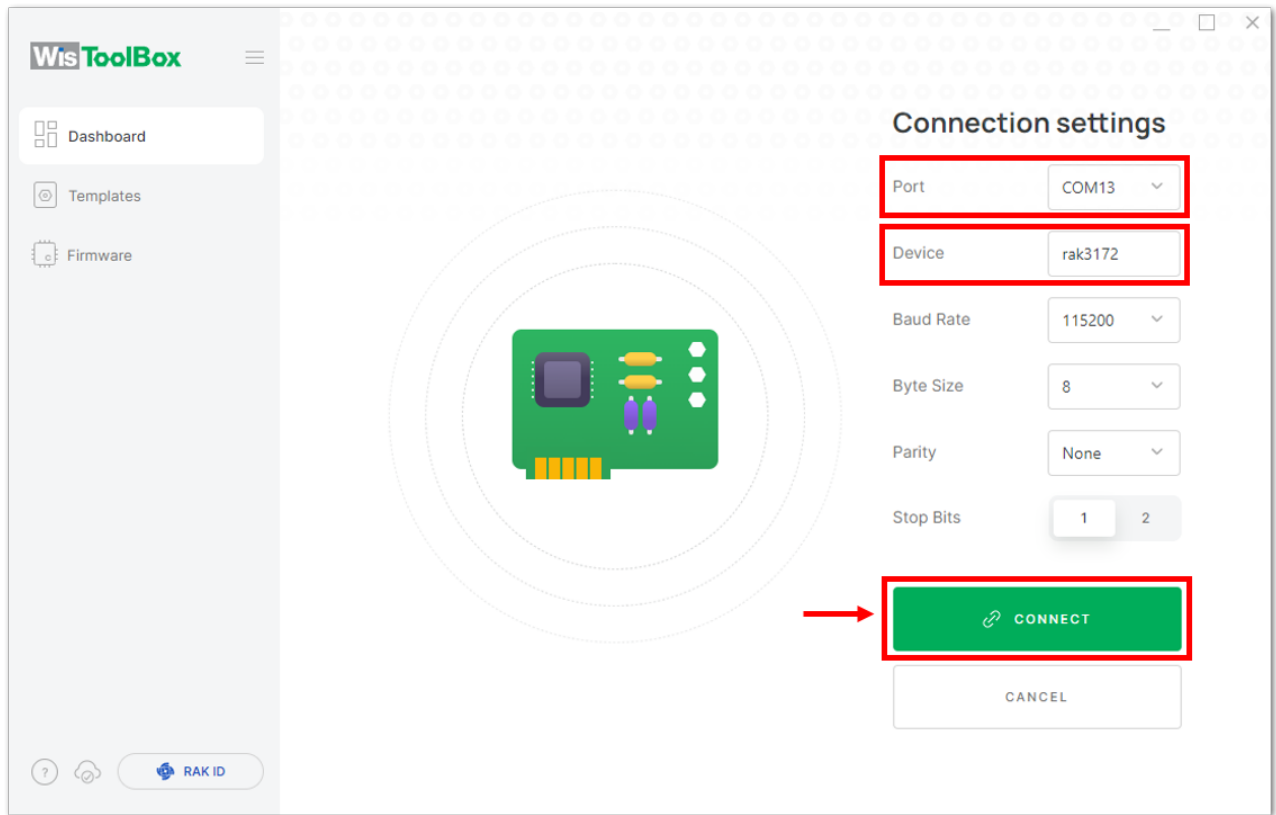

Figure 145: Setting up your device
3. Select your target port where your **RAK3172** is connected. Once recognized, click **CONNECT**, as shown in **Figure 145**.